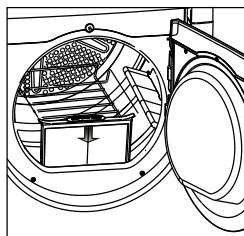

Fig.4
- Insert the lint filter, must be inserted flush with the drum edge.(Fig.4)